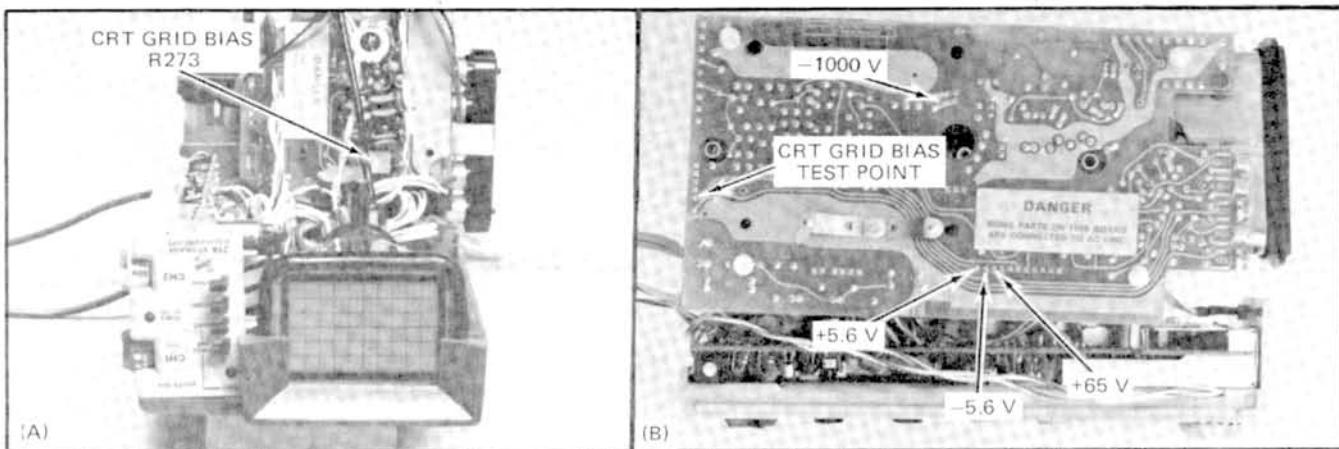

Fig. 4-1. (A) Location of Grid Bias adjustment and (B) Power supply test points.
- Connect the DC Voltmeter between pin 5 and pin 2 of plug P3 (negative meter lead to pin 2) on the Power Supply Board (A-3). See Fig. 4-1.